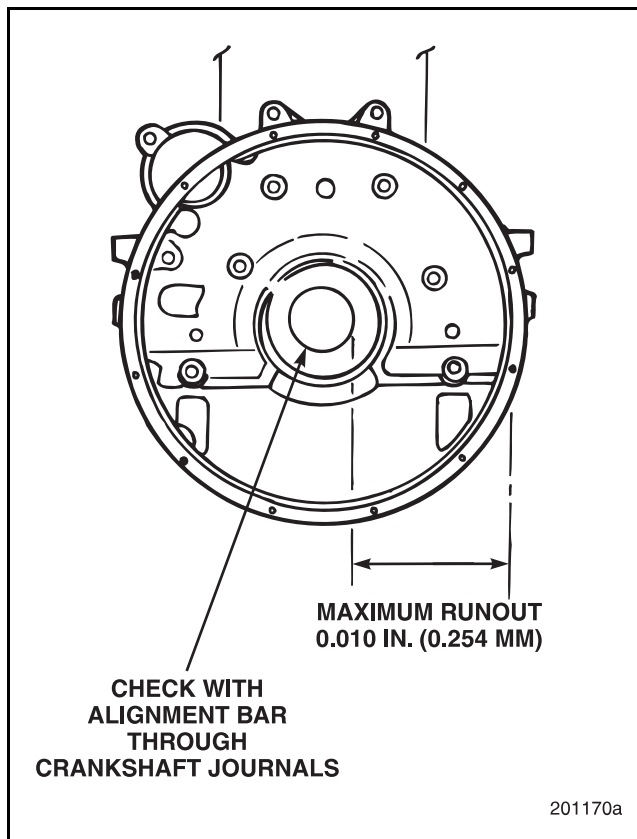

Figure 6-31 — Flywheel Housing Runout Check with Alignment Bar
- Runout checked with an alignment bar installed through the cylinder block main bearing bores: 0.010 inch (0.254 mm) TIR maximum. Refer to Figure 6-31.